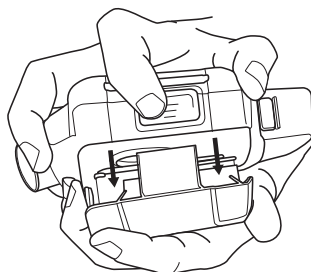

Fig. 7 Removing filter/cover assembly from motor/blower
- Hold the unit downwards so the back (belt side) faces you and the filter and cover face down to help minimize the potential for contamination of the motor/blower inlet (Fig. 7).